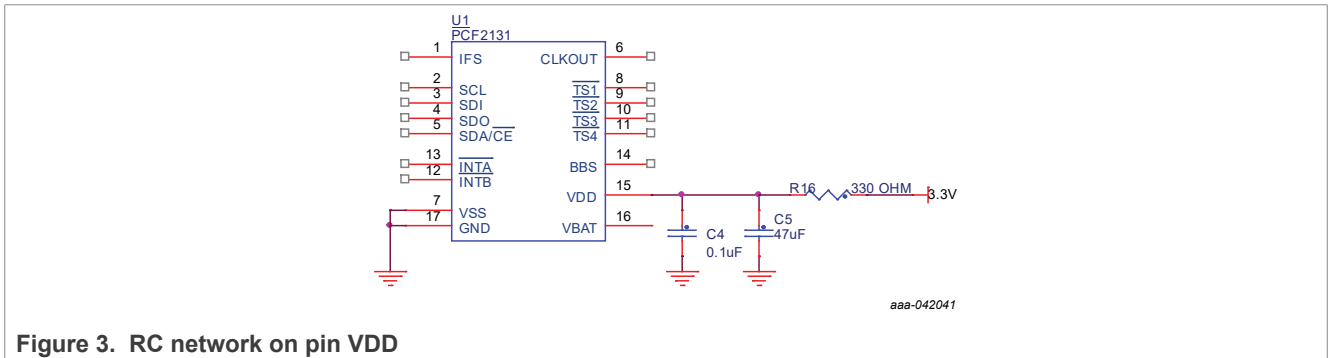

Figure 3. RC network on pin VDD
- higher than some mA it is recommended to add an RC network on the VDD pin, as shown in Figure 3.
| Fig. 1. | Reflow temperature profile | 3 | Fig. 3. | RC network on pin VDD | 6 |